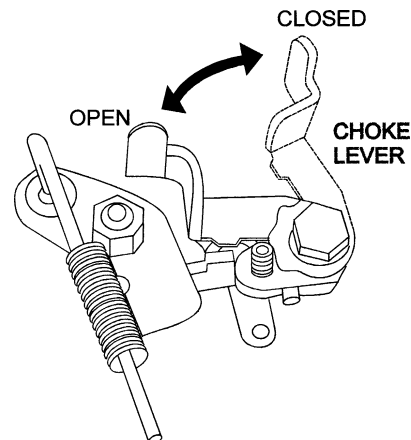

Figure 9. Choke Lever (Closed)
4. In cold weather, start the unit with choke lever "Fully Closed" (Figure 9). In warm weather or when the engine is warm, the unit can be started with choke halfway or completely **open**.
6. If engine fails to start, move the choke lever (Figure 9) to the half open position to avoid flooding.